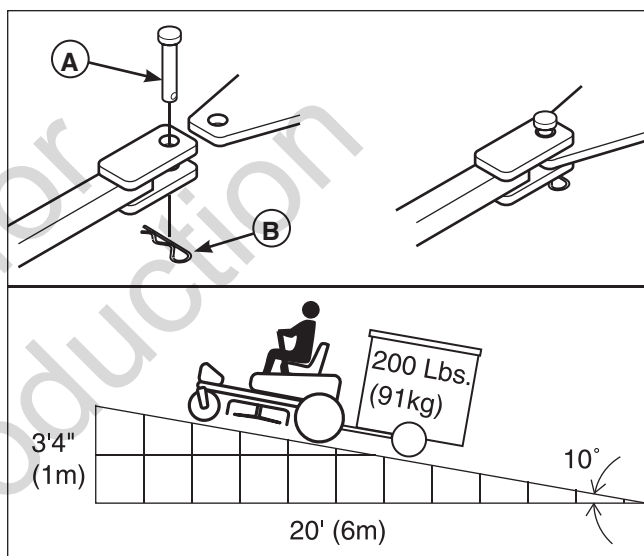

Figure 13. Trailer Weight Recommendations
The maximum weight of a towed trailer should be less than 200 lbs (91 kg). Secure the trailer with an appropriately sized clevis pin (A, Figure 13) and clip (B).